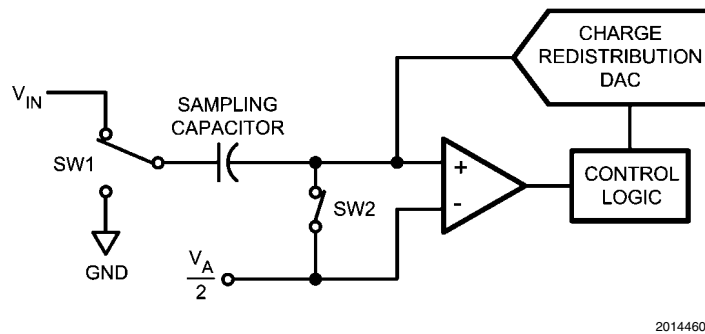
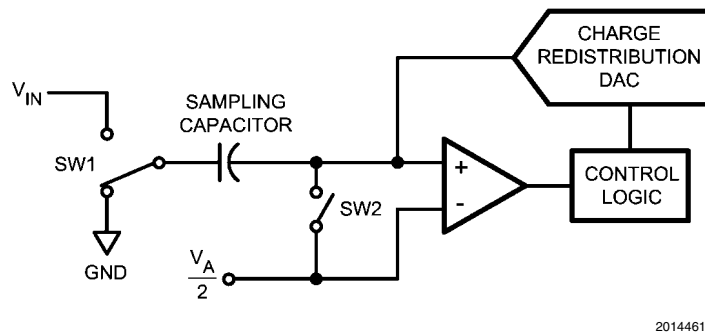

FIGURE 3. ADC121S051 in Track Mode
FIGURE 4. ADC121S051 in Hold Mode
The ADC121S051 is a successive-approximation analog-to-digital converters designed around a charge-redistribution digital-to-analog converter core. Simplified schematics of the ADC121S051 in both track and hold modes are shown in *Figure 3* and *Figure 4*, respectively. In *Figure 3*, the device is in track mode: switch SW1 connects the sampling capacitor to the input, and SW2 balances the comparator inputs. The device is in this state until  $\overline{CS}$  is brought low, at which point the device moves to the hold mode.
*Figure 4* shows the device in hold mode: switch SW1 connects the sampling capacitor to ground, maintaining the sampled voltage, and switch SW2 unbalances the comparator. The control logic then instructs the charge-redistribution DAC to add or subtract fixed amounts of charge from the sampling capacitor until the comparator is balanced. When the comparator is balanced, the digital word supplied to the DAC is the digital representation of the analog input voltage. The device moves from hold mode to track mode on the 13th rising edge of SCLK.